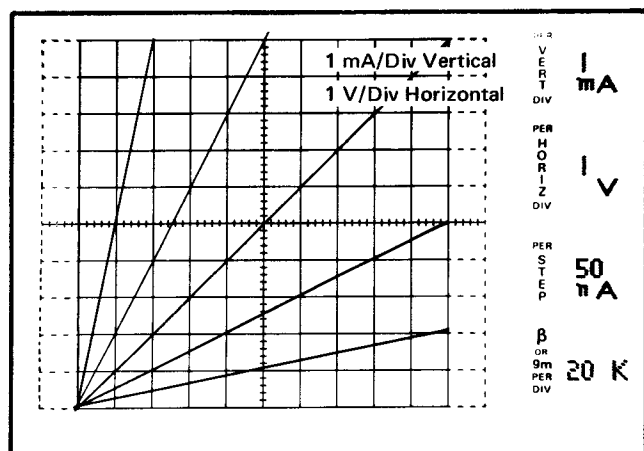

Fig. 2-6. Display of I vs. V for a 1 kΩ resistor using various settings of the VERTICAL and HORIZONTAL switches.
17. Turn the VERTICAL switch clockwise and note that as the vertical deflection factor decreases the slope of the line decreases (see Fig. 2-6). Turn the VERTICAL switch counterclockwise from the 1 mA position and note that the slope increases. Also note that the PER VERT DIV readout changes in accordance with the position of the VERTICAL switch. Reset the VERTICAL switch to 1 mA.